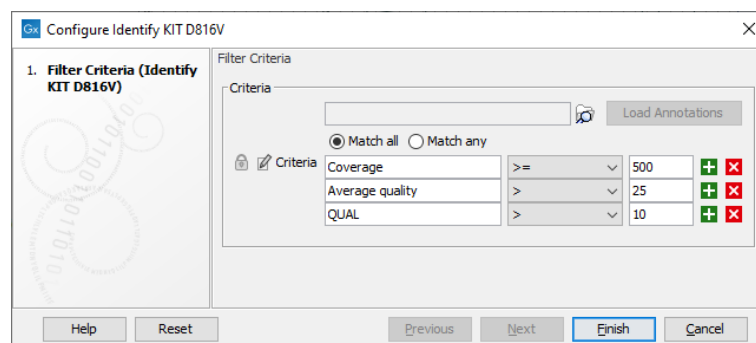

Figure 12: Specify the filter criteria for detection of KIT D816V variants.
24. Add the filter criteria shown in figure 12.